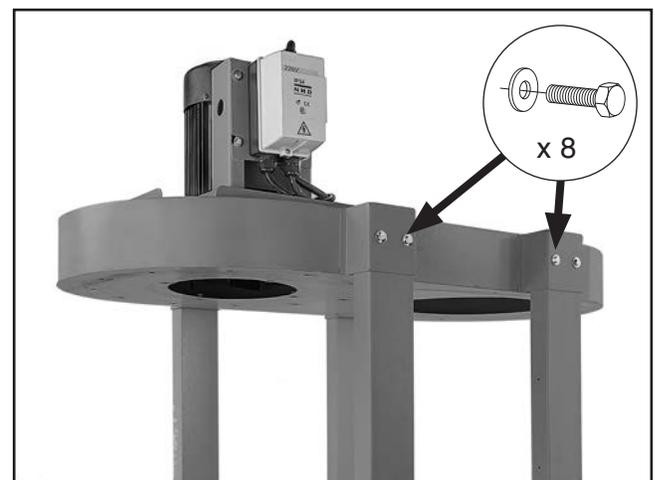

Figure 19. Impeller housing attached to legs.
15. Attach impeller housing to each leg with (2) $\frac{5}{16}$ "-18 x $\frac{3}{4}$ " hex bolts and (2) $\frac{5}{16}$ " fender washers (see **Figure 19**).